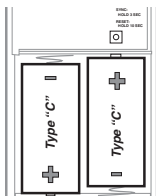

Figure 3
3. **Install 2 alkaline “C” batteries.** Make sure batteries are oriented properly (see Figure 3).